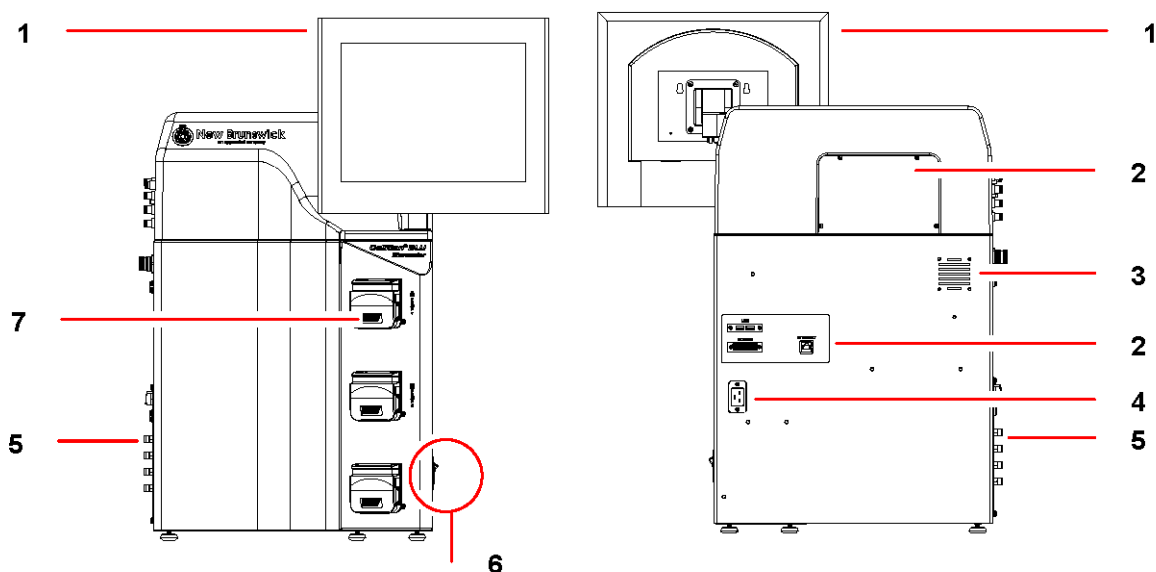
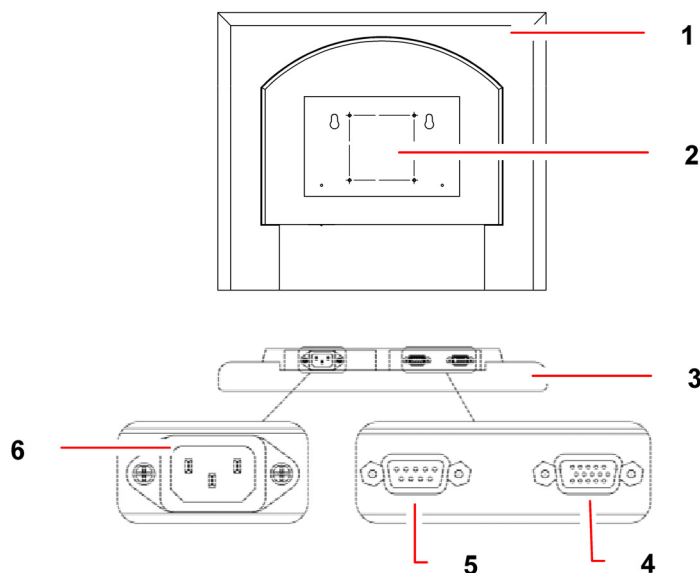
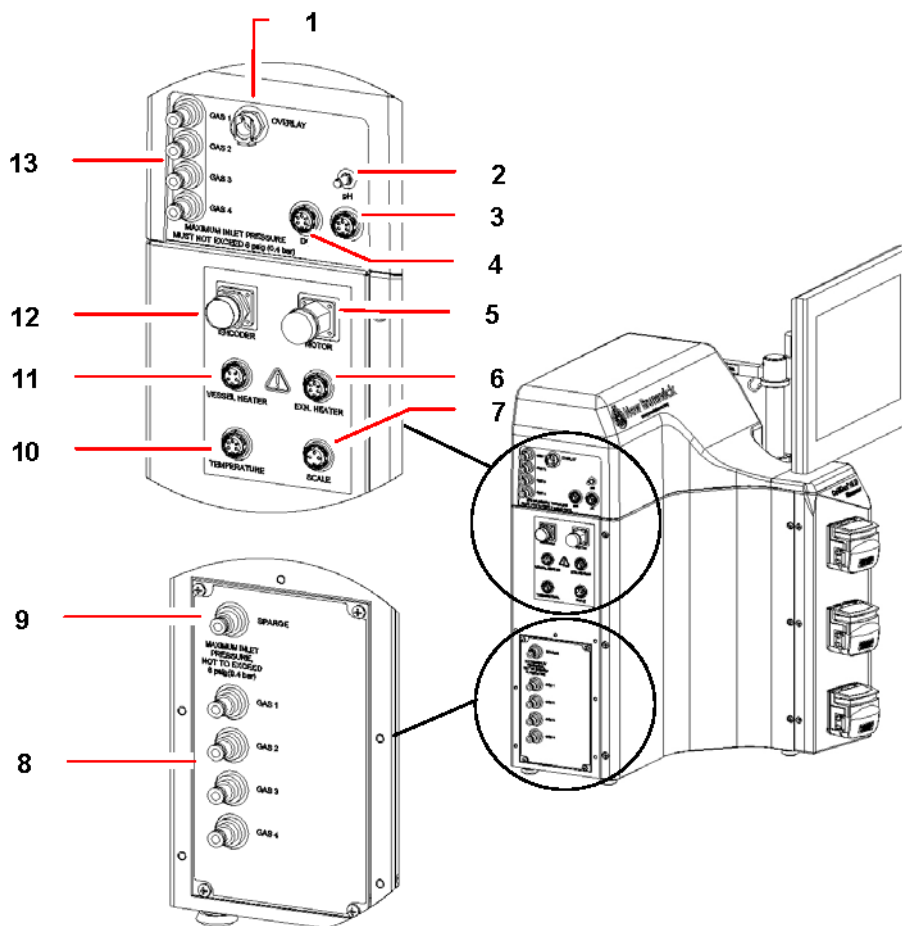

Fig. 1: Front and Rear Views of Control Cabinet
Fig. 2: Touchscreen-to-Control Cabinet Connections
Fig. 3: Control Cabinet Service Connections
- ▶ Align the monitor with the mounting rack on the cabinet, and use the four screws provided with the monitor to securely fasten it to the rack. For location (see Fig. 1 on p. 14) and for installation (see Fig. 2 on p. 15). The mounting rack swivels for easy access.
The control cabinet assembly must be properly connected to gases and mains/electrical power. All gas connections are located on the lefthand side of the cabinet (see Fig. 3 on p. 16). The mains/power connection is located on the back of the cabinet (see Fig. 1 on p. 14).
Gas inlets for both the sparger and the overlay are located on the left side of the control cabinet (see Fig. 3 on p. 16). There are push-in connectors for air, nitrogen, oxygen and carbon dioxide. These connectors accept rigid walled gas tubing, which is supplied with the bioreactor.
It is very important to match the gases to the inlets (see Fig. 3 on p. 16), item 8 and 13, as follows (see Tab. on p. 18):